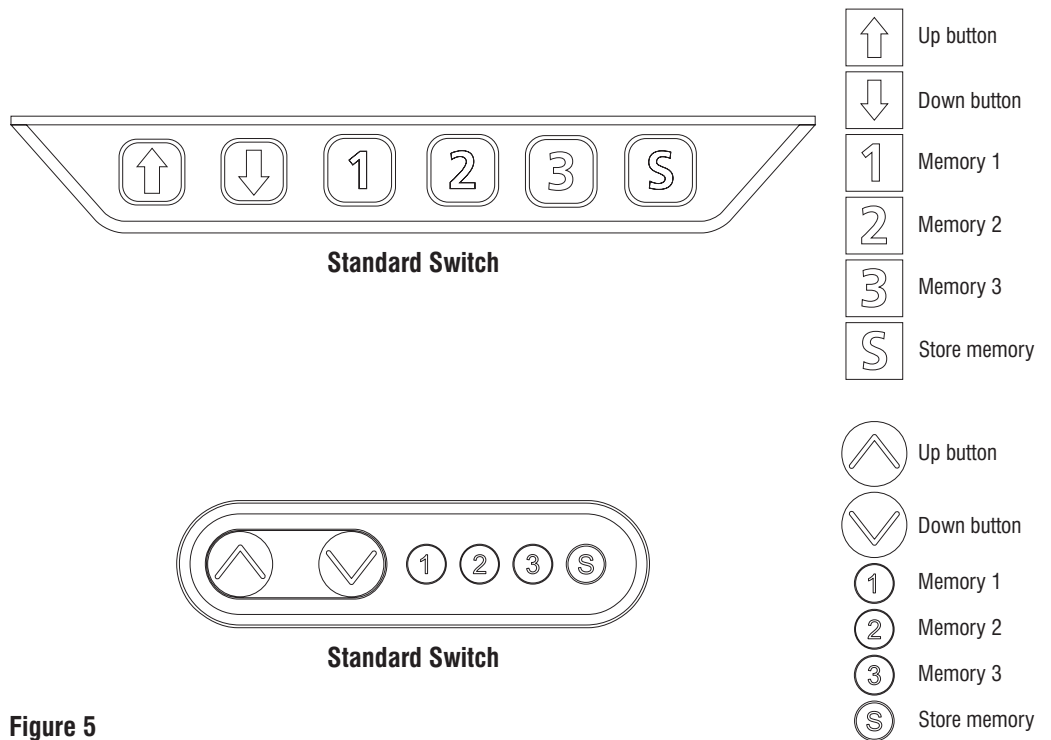

Figure 5
1. To raise or lower the unit, push and hold the Up or Down button, then release when the desired position is reached (Figure 5).
2. To store a position in memory, raise or lower the unit to the desired position. Press the Store memory button, then push the desired Memory button (1, 2 or 3) within two seconds. The position will be stored in memory. Up to three positions may be stored in memory (Figure 5).
3. To raise or lower to a pre-programmed position, push Memory buttons 1, 2 or 3 and hold until desk height reaches the stored position (Figure 5).